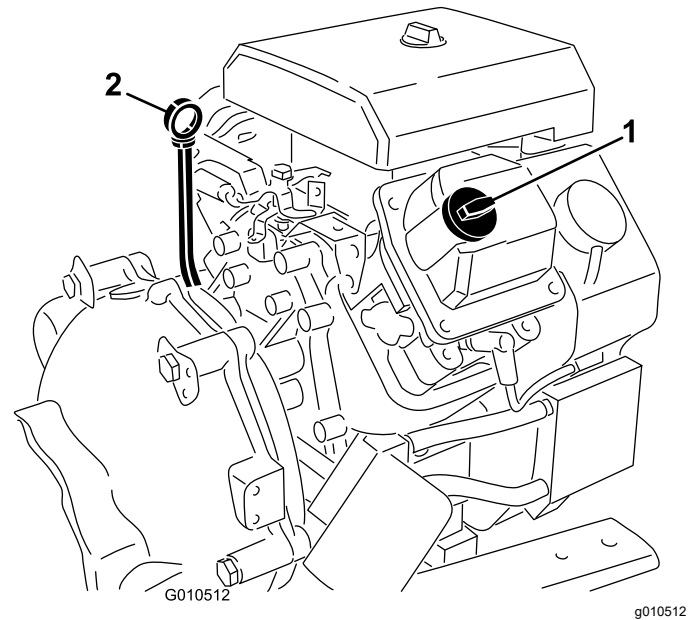

Figure 33
7. If the oil level is low, remove the filler cap (Figure 33), and add enough oil to raise the level to the Full mark on the dipstick.
4. Remove the dipstick and wipe it with a clean rag (Figure 33).